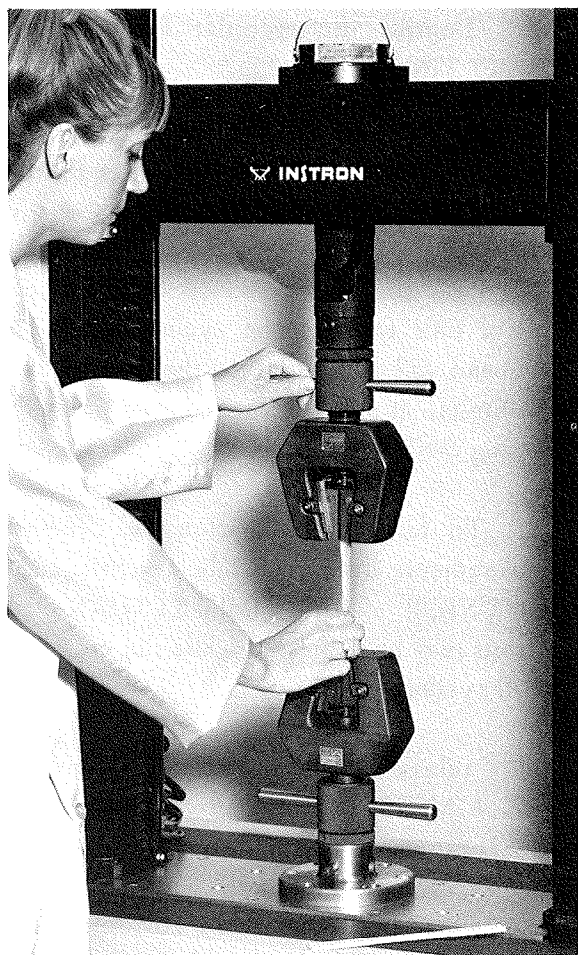

Figure 6-6. Installing a Specimen in Tester
a. Assuming testing is below the moving crosshead (figure 6-6) and the crosshead *preload nuts are properly set, position the crosshead at gage length and insert the specimen in the grips. Tighten the upper grip first. If this process applies a preload on the specimen, do not change the balance adjustment to compensate for it.